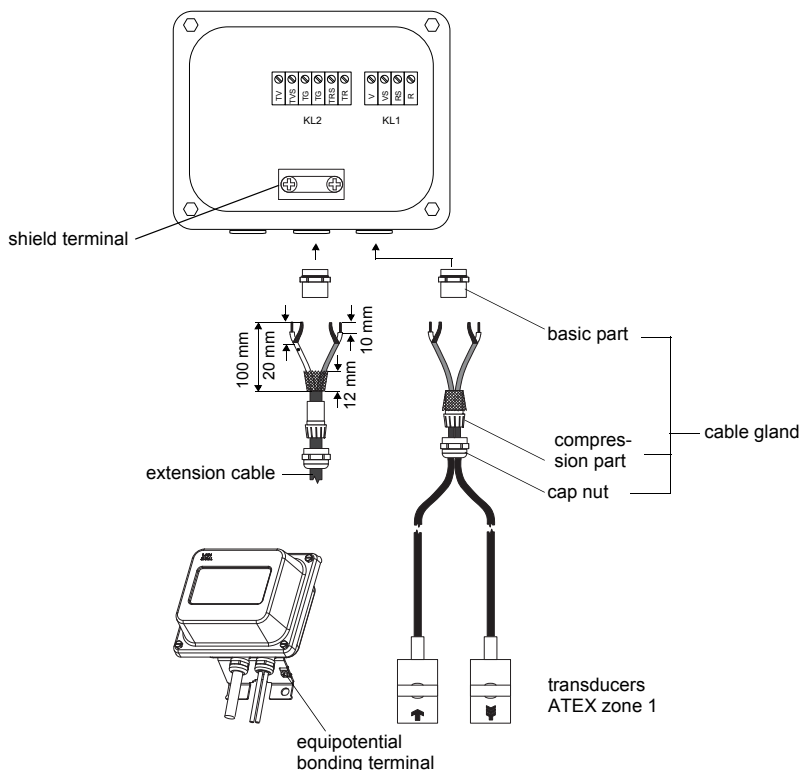

Fig. 5.11: Transducers (ATEX zone 1) - connection via junction box, connection of extension cable and transducer cable to the junction box
- Remove the blind plug from the junction box (see Fig. 5.11).